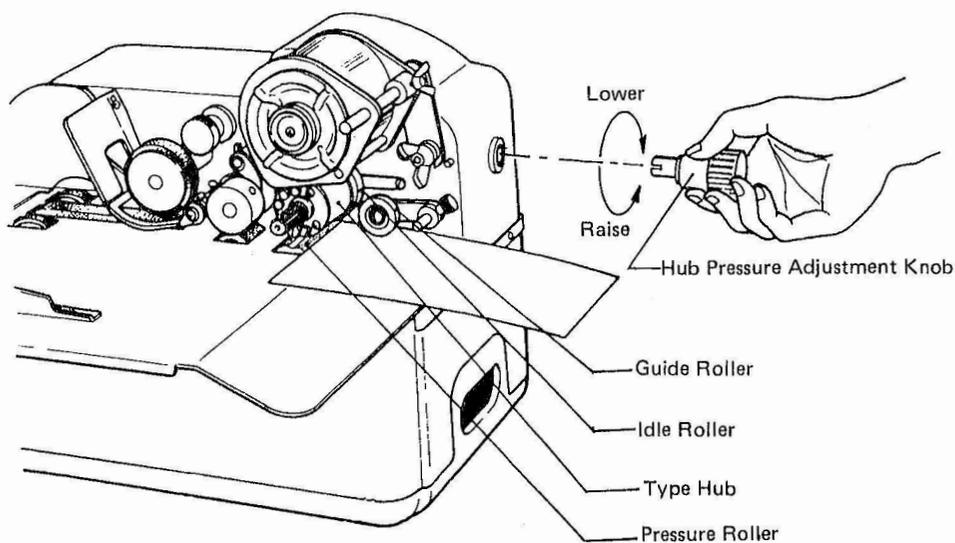

Fig. 17
2) Adjusting Spacing between Type Hub and Hub Pressure Roller. (See Fig. 17)
- B. Then rotate the hub pressure adjustment knob clockwise (CW) to lower the rubber pressure roller.
NOTE: Type hub diameter with type is the same as the idler roller diameter. Care must be taken in not imprinting with excessive printing pressure which may cause sheets to curl upward forcing them over instead of under the spring loaded Guide Roller (See Fig. 17—below).